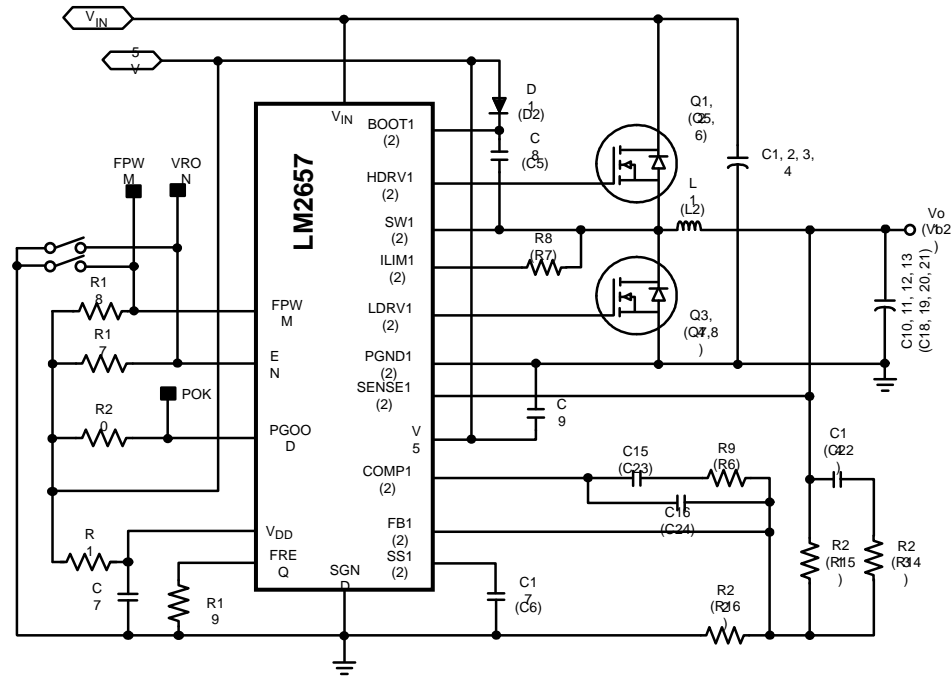

Figure 20. High Current Application Circuit
(1) In the BOMs listed above, the user has the option of using certain components in parallel. For example, in the typical apps board, C22 is a 100 $\mu$ F capacitor and C23 is optional. The user now has the option of using (2) 47 $\mu$ F capacitors. If this is done the compensation will need to be changed accordingly (C4 will be approximately half its original value.)
**Table 3. Bill of Materials (Figure 20)